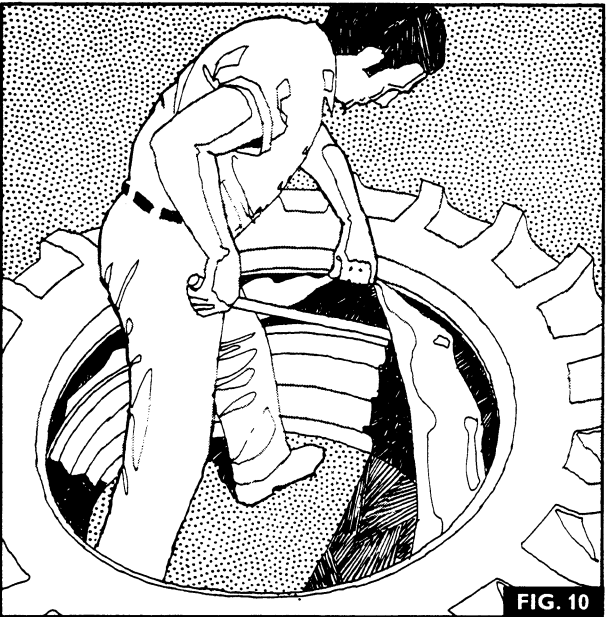

FIG. 10
2. Fig 10. Refit the tyre to rim, using long tyre levers.